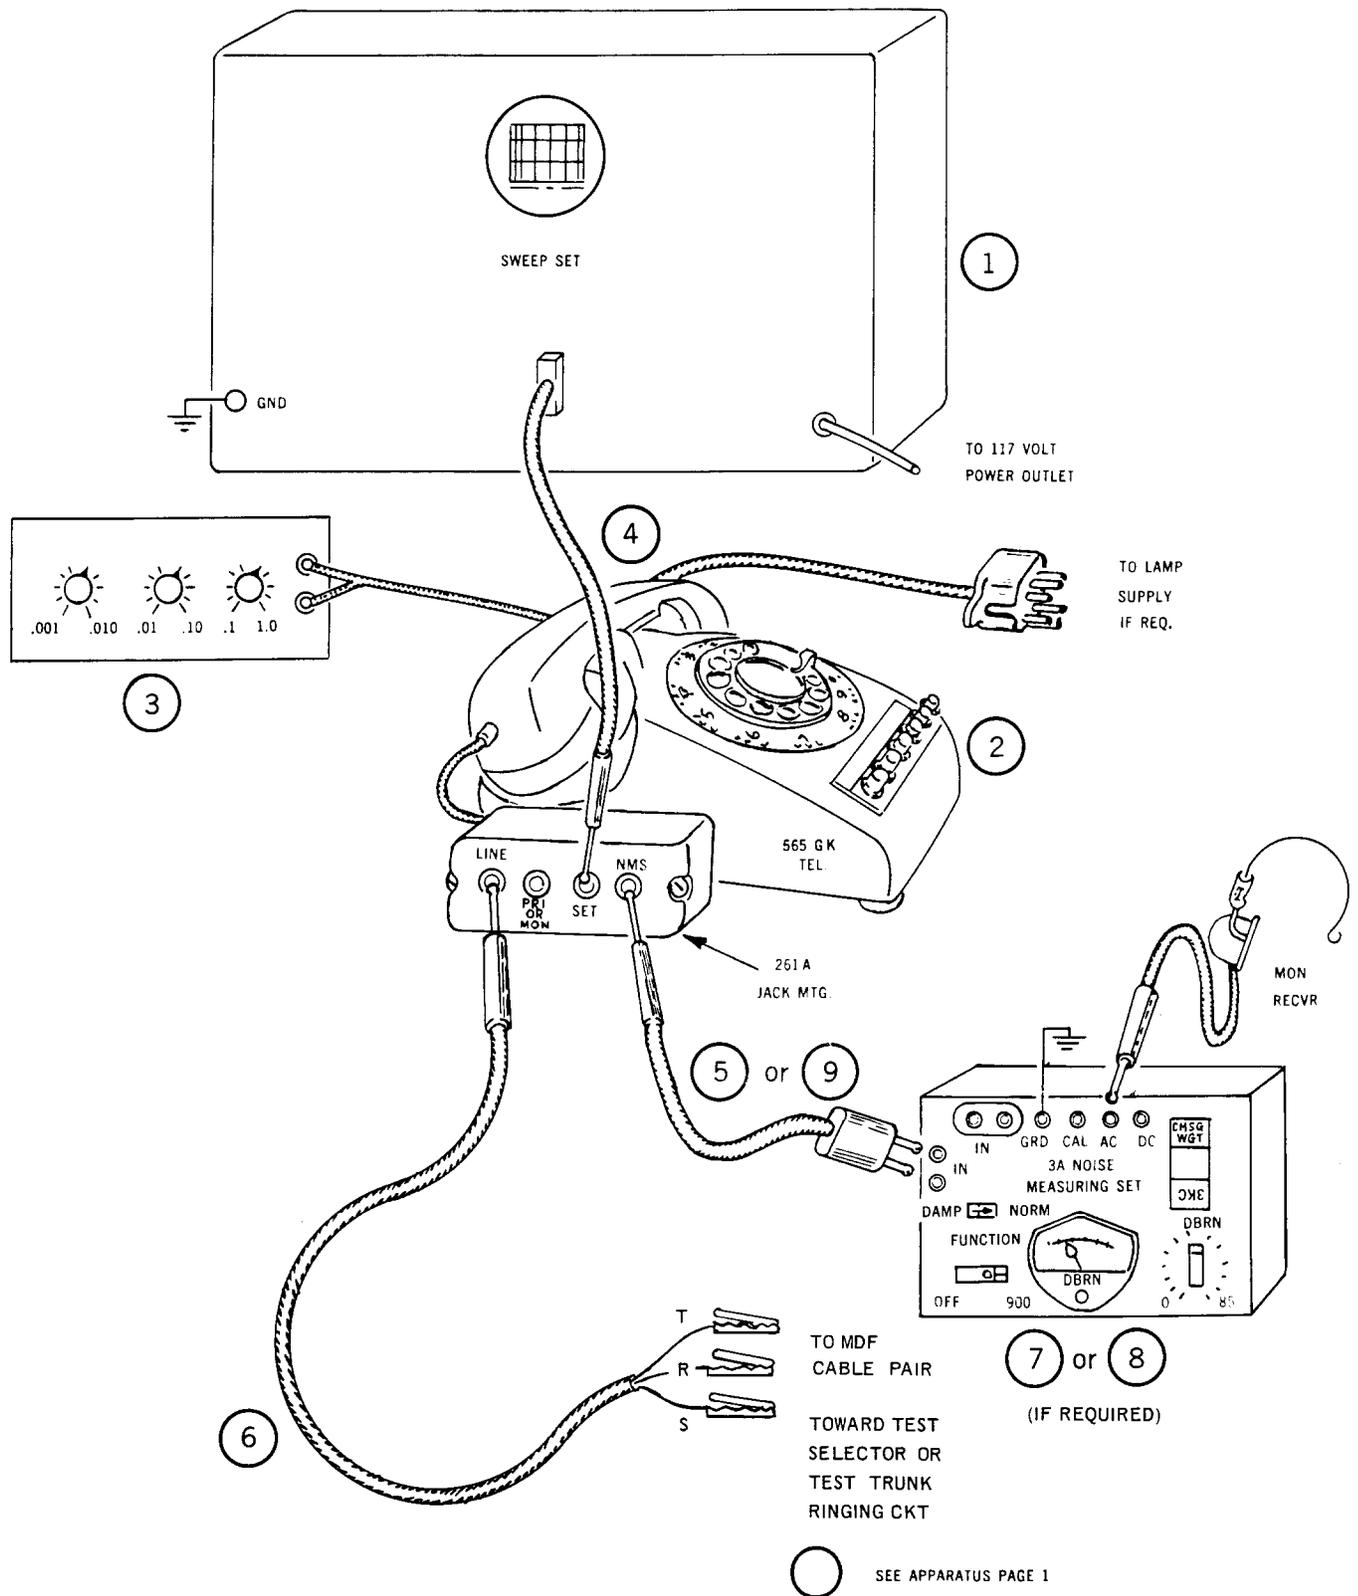

Fig. 1
2.03 The sweep set requires a 117V AC power outlet and suitable ground, or it may be equipped with a three-wire power cord. The telephone set lamps may be activated by providing a 2012A transformer wired locally as indicated in Fig. 1 of Section 330-450-102.
3.01 Connect the test apparatus as shown in Fig. 1. The numbers on the figure refer to the items in the apparatus list.
4.01 Remove the handset from hook and dial the telephone number for the desired line. Listen for idle line condition (no call in progress) and lift the exclusion key to hold the connection (requires connection to -48V battery and ground per Fig. 1 for proper sleeve condition).